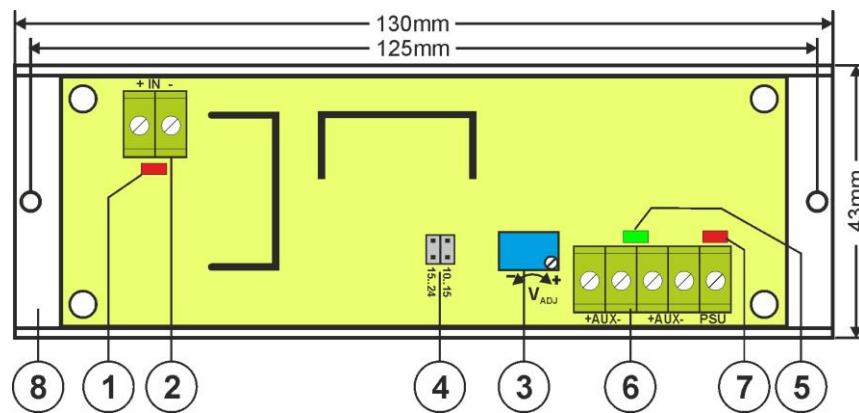

Fig.2. The converter module's view.
1.2. Description of components and connectors (Fig. 2, Table 1, Table 2).
No. [fig.2]	Component's description